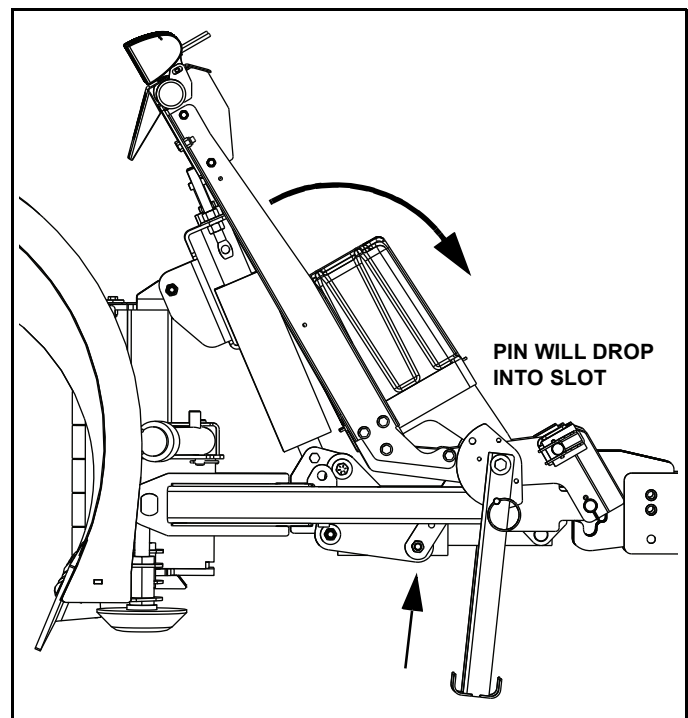
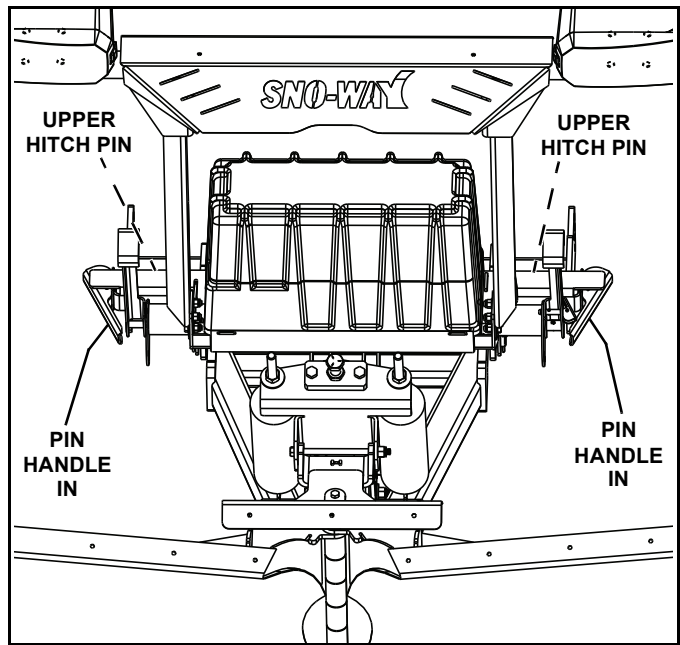

Figure 1-18
Figure 1-19
3. Rotate light/lift bar into position by turning on down pressure and pressing the lower button. (See Figure 1-18.)
4. Rotate pin handles forward to lock pins in place. Put plow in float function position by turning down pressure off. (See Figure 1-18).
Upper hitch pins will snap into place. (See Figure 1-18 and Figure 1-19).